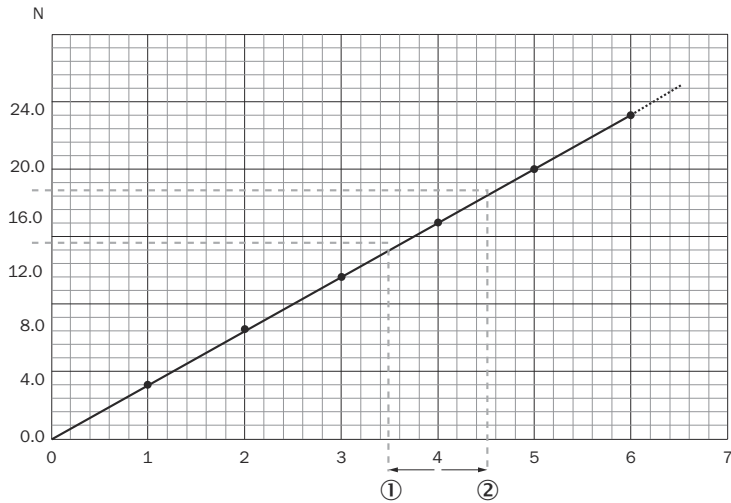
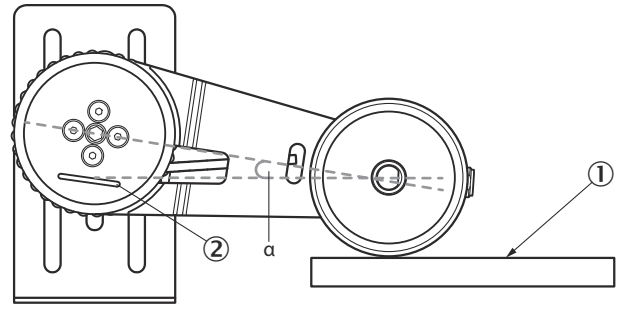
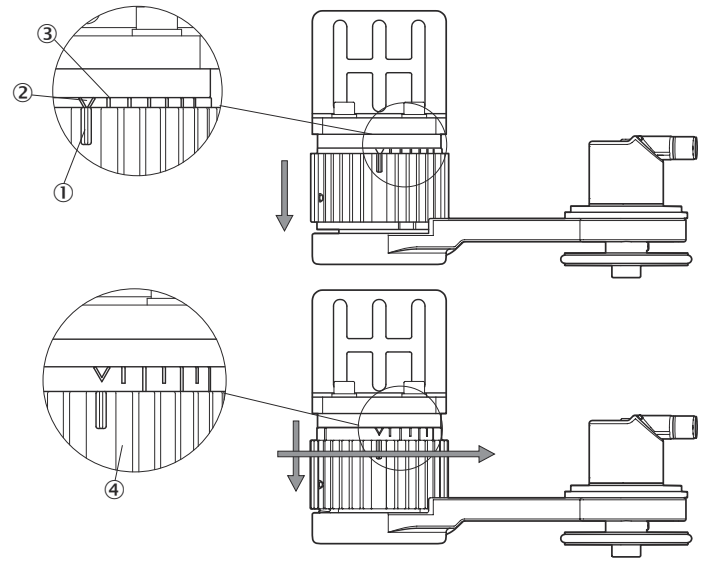

Figure 3: Typical force value vs force setting level (Clockwise tensioning)
Figure 4: Parallel mounting of MWS120
Figure 12: Reading the spring force from the locker
The force can be set manually, without tools, the tensioning force can be set in six steps ≈ 4 N, as shown in scale (figure 3). In table 2 the typical force corresponding to the scale position is illustrated.
For reliable spring force values, the system must be mounted parallel to the measuring surface (figure 4). Otherwise the typical force, shown in figure 3 may vary.
- If the device is installed as described in chapter 5.2, the scale (figure 12) indicates the currently applied force. Each dash equals one step in the spring force diagram visualized in chapter 3.2. If the device indicator is parallel to the mounting surface, the tightening force can be taken 1 to 1. If the device is mounted with an angle (figure 4) to the measuring surface, the applied force is slightly different and can be calculated with the formula Calculation of actual applied force.
- ▶ Push the locker to the front (figure 12) to enable the locker to move freely. To set the force, turn the arm to desired force position and let the locker loose. The locker automatically secures itself in the CW use.
- ① Indicator B
- ② Reference mark
- ▶ If the device is installed as described in chapter 5.4, the scale (figure 12) indicates the currently applied force (should be zero at the beginning).